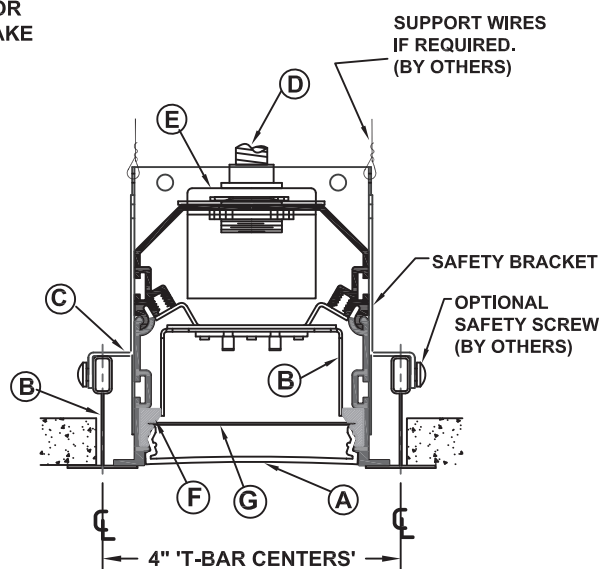

FIG. 1
MODIFY IF NECESSARY AND MOUNT A 2' OR 4' (AS REQUIRED) LENGTH OF T-BAR (B) ON CENTERS AS INDICATED BELOW FROM EXISTING T-BAR. (REF. FIG. 1)
LOOSEN LOCK NUTS AND ADJUST SAFETY BRACKETS (C) SO THAT THEY ARE APPROXIMATELY 2" FROM EACH END OF FIXTURE AND RESTING ON TOP OF T-BAR. TIGHTEN LOCK NUTS SECURELY. (REF FIG.1) NOTE THAT T-BAR SAFETY BRACKETS MAY BE SCREWED TO T-BAR IF REQUIRED BY LOCAL CODE. (FASTENERS PROVIDED BY OTHERS)